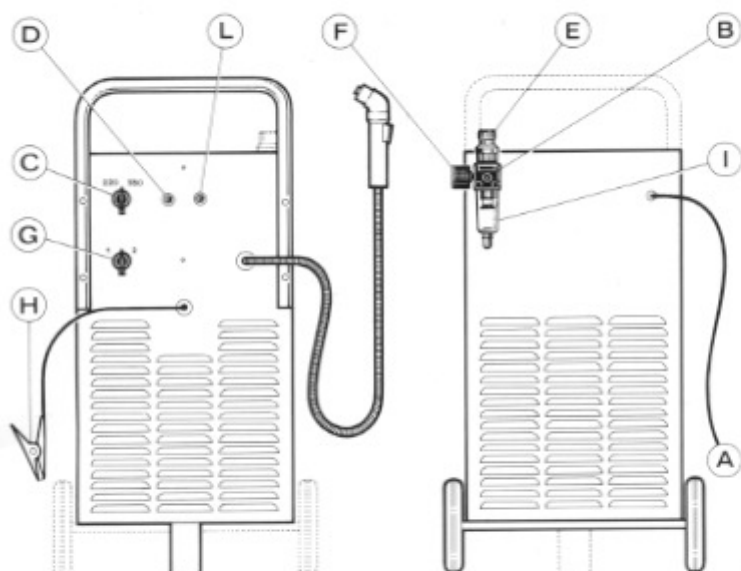

Fig. 2
Pneumatic: located on torch feed to avoid insufficient air pressure and signalled by display light **L** (fig. 2).
- knob **G** (Fig. 2) on 1 instead of 2;
Although the equipment is provided with an automatic device for the discharge of condensate, which functions whenever air feed is shut off, it is recommended that periodical check that no condensate is in the container **I** (Fig. 2) of the pressure regulator.